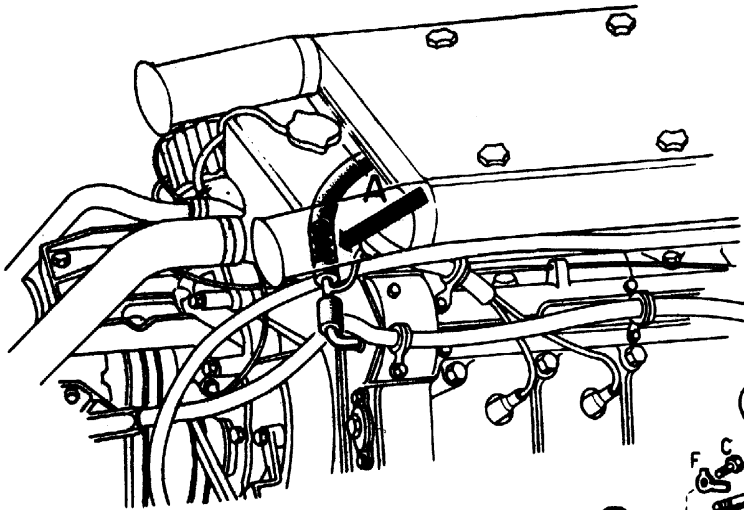

Fig. 32
In detta tubazione esiste una retina spegnifiama A (fig. 32)
The toxic gases present within the engine are aspirated off by means of a special tubing which is permanently under vacuum (fig. 36), and these gases are finally burnt by the engine itself. There is a flame-arrester retina (A) in the said tubing (fig. 32).